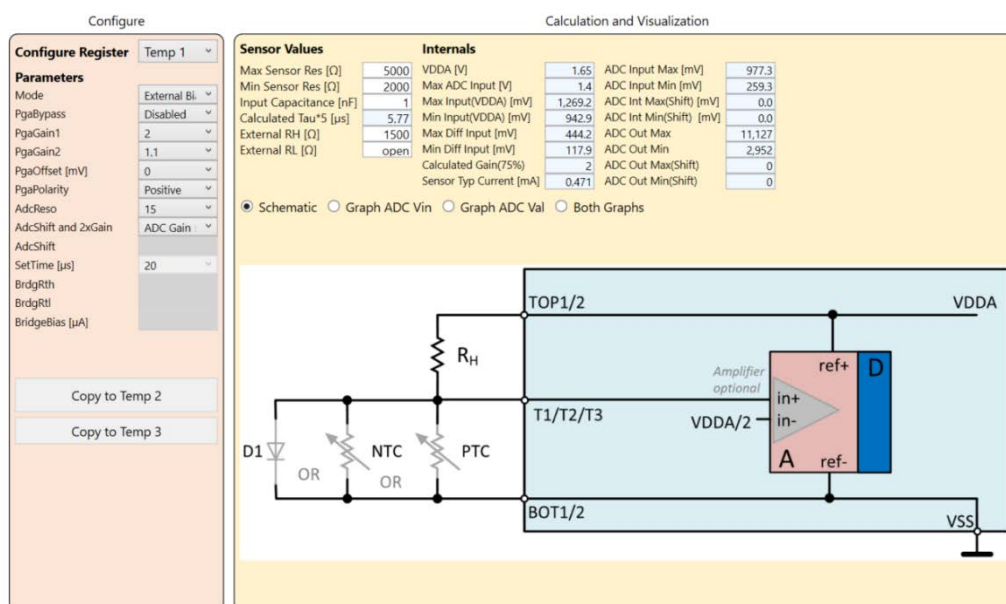

Figure 55. Mode Source External Bias High
- The diode/NTC/PTC transducer is supplied through an external resistor tied to VSS (GND) when the “External RH” (selectable in the Sensor Values section) is not set to “open” or “0” (Figure 55).